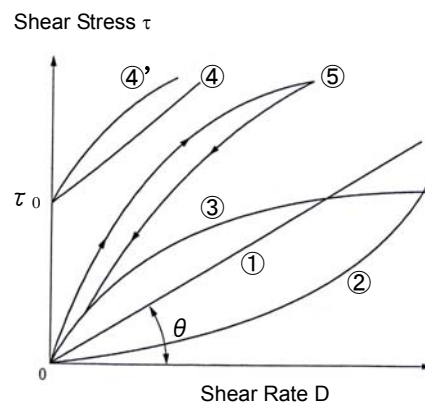

Figure 3 Newtonian Fluid and Non-Newtonian Fluid (Yutaka Matsuyama, Jitsuyo Kogyo Bunseki, 61, The Energy Conservation Center, 2001)
Figure 3 shows the relationship between shear rate  $D$  and shear stress  $\tau$ . As straight line ① shows, where they are in proportion indicating a constant slope of the line, it is a Newtonian fluid. Where  $\theta$  stands for the slope, viscosity  $\eta$  is represented by the following equation (4);